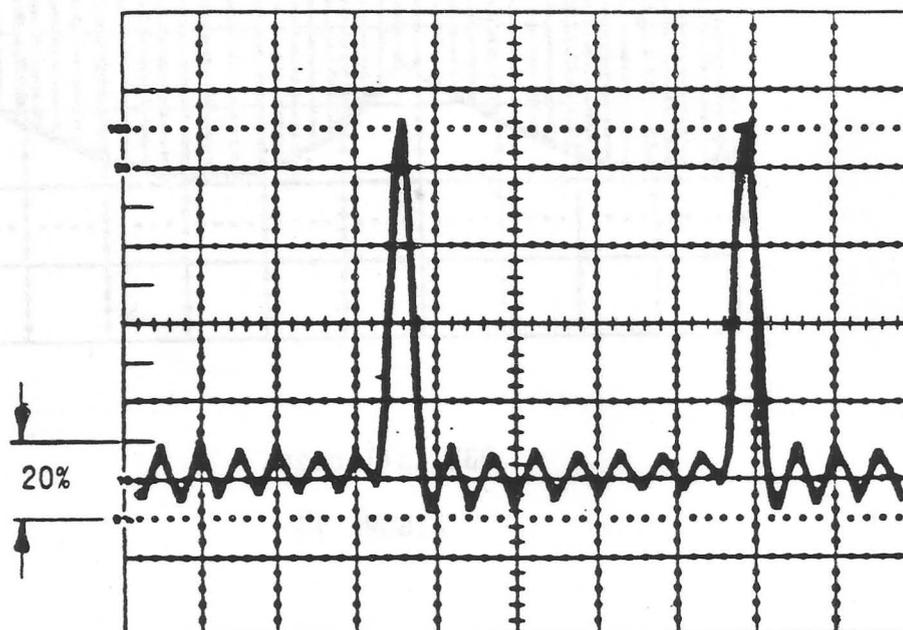

FIGURE 12
4.5.25.3 Measure the flyback ringing as in Figure 12.